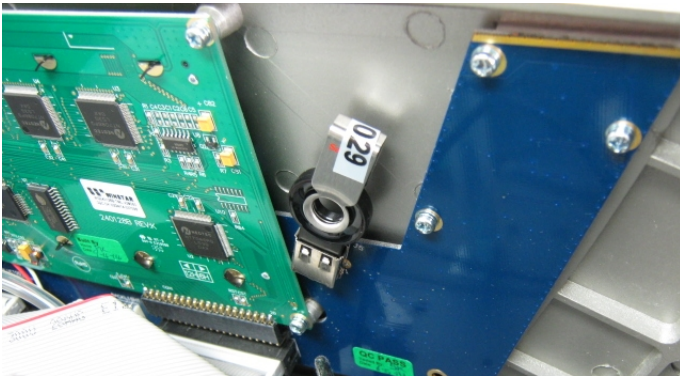

Figure 8 – Installation of USB Memory Stick
6. Open the lid and ensure the USB memory stick is installed (refer to Figure 8).
6. Remove the USB memory stick and pack with instrument (refer to Figure 8)